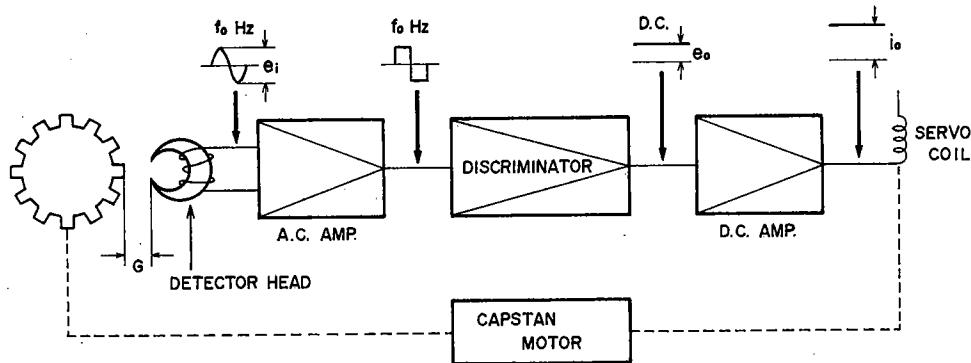

Fig. 34
1. The detector head core is comprised of a permanent magnet, and the gear installed on the motor, by magnet, and the gear installed on the motor, by the magnetic flux of the detector head core. Accordingly, the detector head coil works in the same way and generates A.C. Voltage (becomes the detector signal described below). When this detector signal voltage (e_i) becomes detector signal frequency (f_0), this adjusts the capstan motor revolutions proportionately. (See Figs. 34 & 35)
2. When the detector signal voltage generated from the detector head is about 3 mV (at 7-1/2 ips), because the level is low, the perpendicular (up and down) waveform is amplified by the A.C. Amplifier until the waveform is clipped. (See Fig. 34)